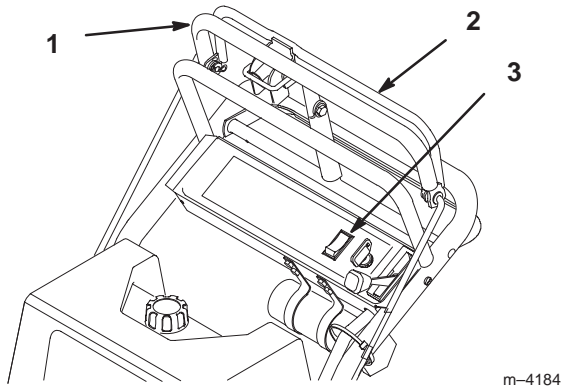

Figure 17
1. Pull on the upper control bar to stop the machine (Fig. 17).
- Releasing blade control bail to disengage blades (PTO) (Fig. 17).